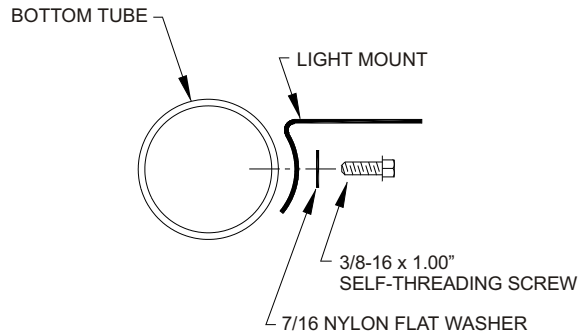

FIGURE 1
- STEP 3. Fasten Light Mounts to Bottom Tube using (2) 3/8-16 x 1.00" Self Threading Bolt and (2) 7/16" ID Nylon Washers. Tighten and torque to 20 FT. LBS. **See Figure 1.**
- STEP 5. Fasten Uprights to Top and Bottom Tubes using (4) 1/2-13 x 1.50" Flat Head Bolts and (4) 3.00" OD Poly Washers. Finger tighten.